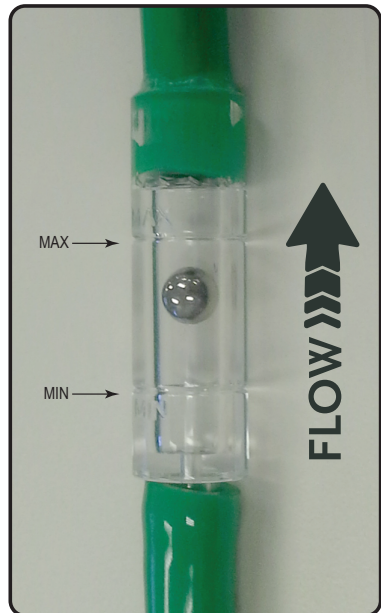

Figure 8. Flow Meter
21. Hold flow meter clear plastic barrel vertically and note the position of the ball. See "Figure 8. Flow Meter".